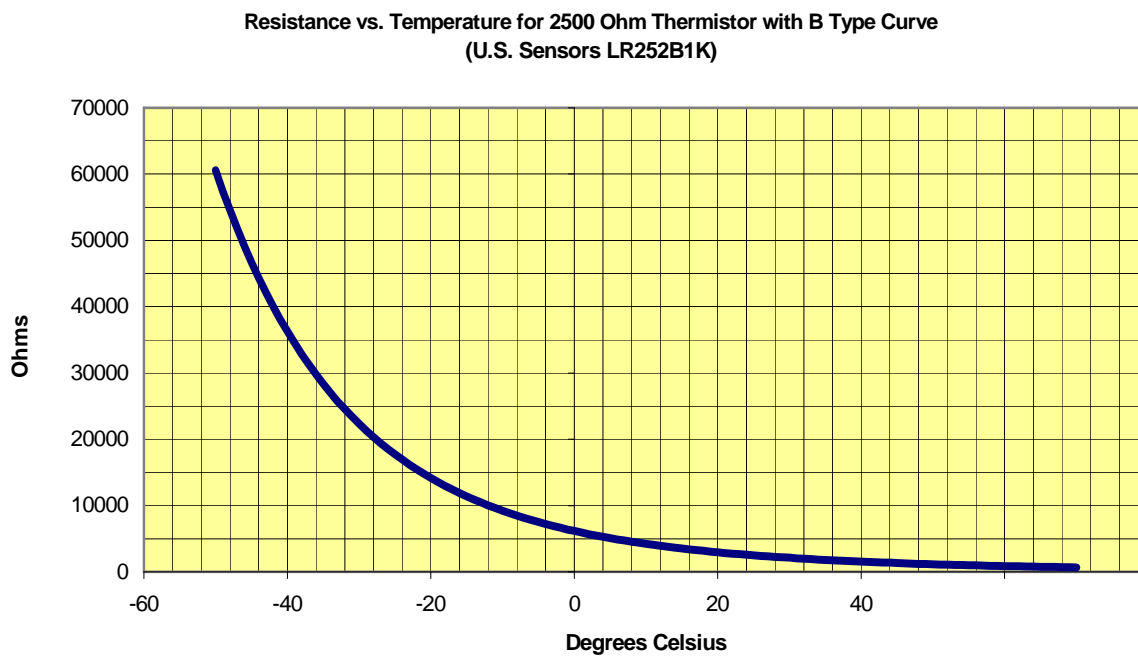

Figure 9. Thermistor resistance vs. temperature
1. Measure the resistance of the thermistor between the "Temperature Excitation" and "Temperature Out" wires. Then convert that resistance to temperature using the information in Figure 9.